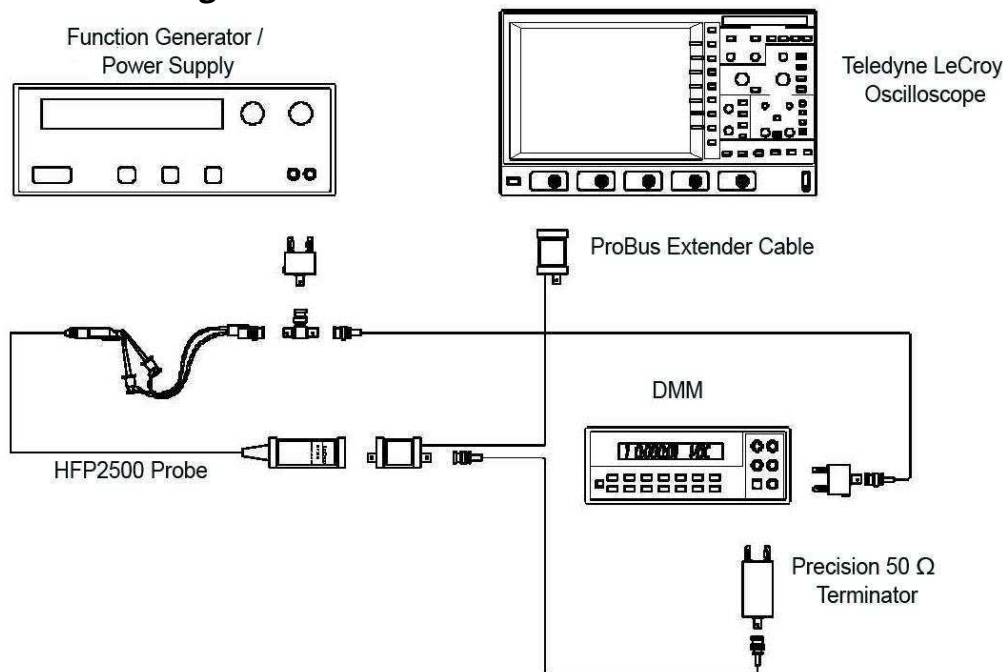

Figure 10, Offset Range Adjustment Setup
5. Attach a BNC cable to the unused female port of the BNC tee and a dual banana plug adapter to the other end of the BNC cable and plug this into the DMM. Make sure the side of the banana plug corresponding to the BNC shield (marked 'GROUND') is connected to the LO or COMMON input of the DMM. Refer to Figure 10, Offset Range Adjustment Setup for setup information.